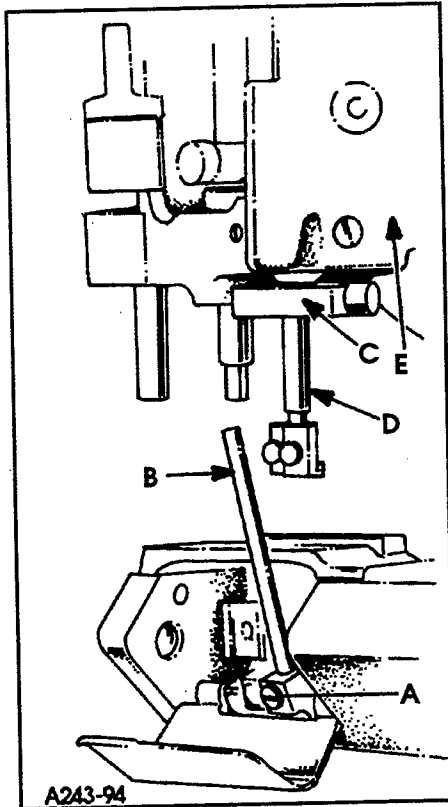
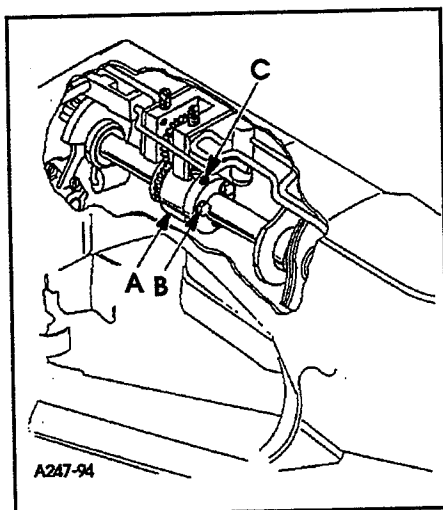

FIG. 2
FIG. 3
mechanism. Rotate handwheel in the operating direction until the needle bar is at the bottom of its stroke and just begins its upward travel. Loosen screw (A, Fig. 2) and remove the looper for the left hand needle from the looper holder. Insert a straight steel rod (B) 5/32" (3.9mm) or 11/64" (4.3mm) diameter by 2-1/2" (63.5mm) long into looper holder and retighten screw (A). It may be necessary to reposition the looper holder so that the rod (B) will be in a vertical position when at its farthest travel to the right. Rotate the handwheel until the rod is at extreme left, reinstall the throat plate. Turn the handwheel in the operating direction, with needle bar rising until rod (B) comes in contact with the edge of the throat plate. At this point, clamp Union Special timing gauge No. 21225H (C) around the needle bar (D), flush against the underside of the machine casting (E). Rotate handwheel in the opposite direction until either the gauge contacts the machine casting on the up stroke of the needle bar or the rod contacts the edge of the throat plate. Maximum allowable clearance between gauge and casting or rod and throat plate is .005" (0.1mm)
Both ends of the adjustable split coupling are secured to the crankshaft and main shaft by spot screws and set screws. On the main shaft end of the coupling (A, Fig. 3) three screws (B) thread horizontally through the coupling. The holes in the main shaft end of the coupling are larger than the diameter of the screws, permitting several degrees of rotation in either direction to properly synchronize the needle and looper. Loosen the three horizontal clamp screws (B, Fig. 3). With rod (B, Fig. 2) at its farthest position to the left, snug the uppermost horizontal clamp screw enough to hold coupling (A, Fig. 3) in position. If the handwheel is turned in reverse of operating direction and gauge (C, Fig. 2) on needle bar (D) contacts the machine casting (E) before rod (B) contacts the edge of the throat plate, loosen horizontal clamp screw (B, Fig. 3) which was snug, while holding the coupling in place with an Allen wrench in set screw (C). Rotate the handwheel slightly in reverse of operating direction, snug the uppermost horizontal clamp screw (B), recheck synchronization. If the handwheel is turned in reverse of operating direction and the rod contacts the edge of the throat plate before the clamp gauge contacts the machine casting, adjust as before, except turn the handwheel slightly in the operating direction. Use shim stock to insure no more than .005" (0.1mm) exists between gauge and casting or between rod and throat plate, in both the operating and reverse directions of the handwheel. When this setting has been made, tighten the three horizontal clamp screws (B, Fig. 3) securely, and recheck both clearance points with .005" (0.1mm) shim gauge to assure no slippage occurred while tightening the screws.